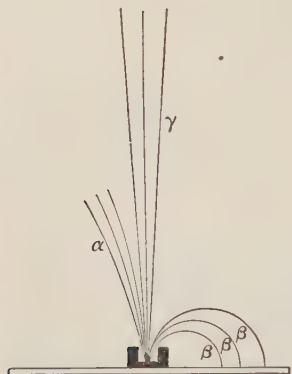

FIGURE 720.—SEPARATING THE RADIATIONS.
**495. Method of Separating the Radiations.**—The three types of radiations were separated and the determination of their character made possible by very simple means. A small quantity of a radium salt was placed in a hole in a block of lead, so that the radiations could escape only in one direction (Figure 720). A strong magnetic field was established at right angles to the direction of the radiation. The